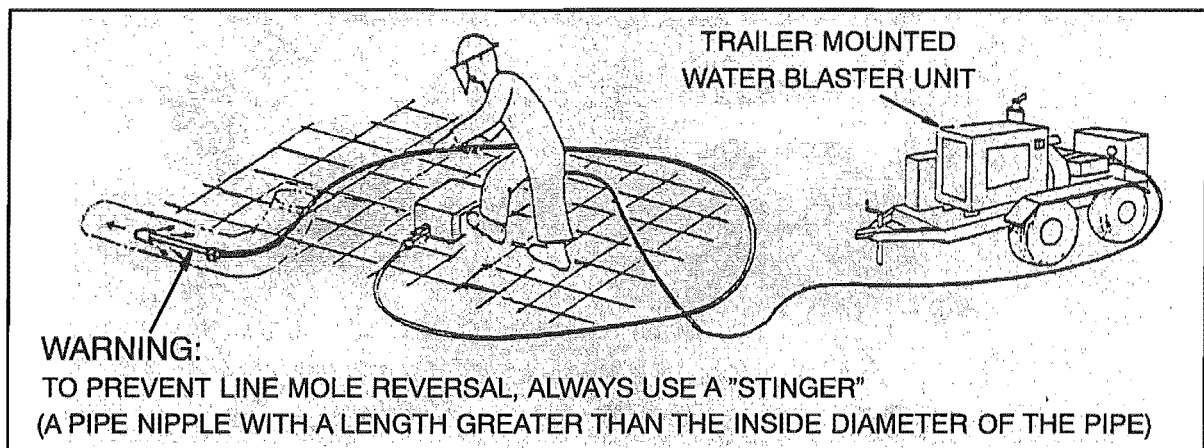

Figure 2-3. Moleing or Flex lancing
- b. **Multiple operation** – When more than one (1) shotgunning operation is being performed within the same area, a physical barrier shall be installed or adequate spacing between operators shall be maintained to prevent the possibility of injury from the high pressure water.
- e. **Minimum length** – Where practicable, the minimum length of the shotgun lance extension should be four (4) feet (1.8 m) from the triggering device to the nozzle.
- b. **Reversing** – A positive method shall be used to prevent the nozzle from reversing direction inside the item being cleaned, such as using a pipe nipple behind the nozzle which has a length larger than the inside diameter of the item being cleaned. This pipe nipple is known as a “stinger” (Figure 2-3).